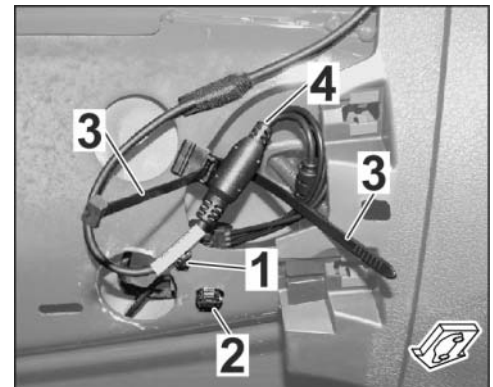

Figure 23
3.6.6 Position both lines in the rear lid cavity and install the relevant retaining clip into the tailgate. ⇒ *Figure 23*